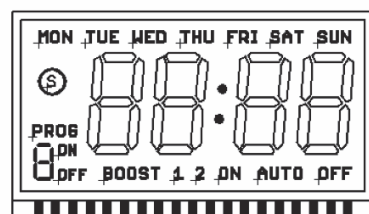

Figure B-2: Full display
2. A full display will show when the battery is charged, then revert to the default setting (- - : - -). No display indicates that the battery requires charging for a minimum 3 hour period. See Figure B-2 for a representation of the screen's "full display".